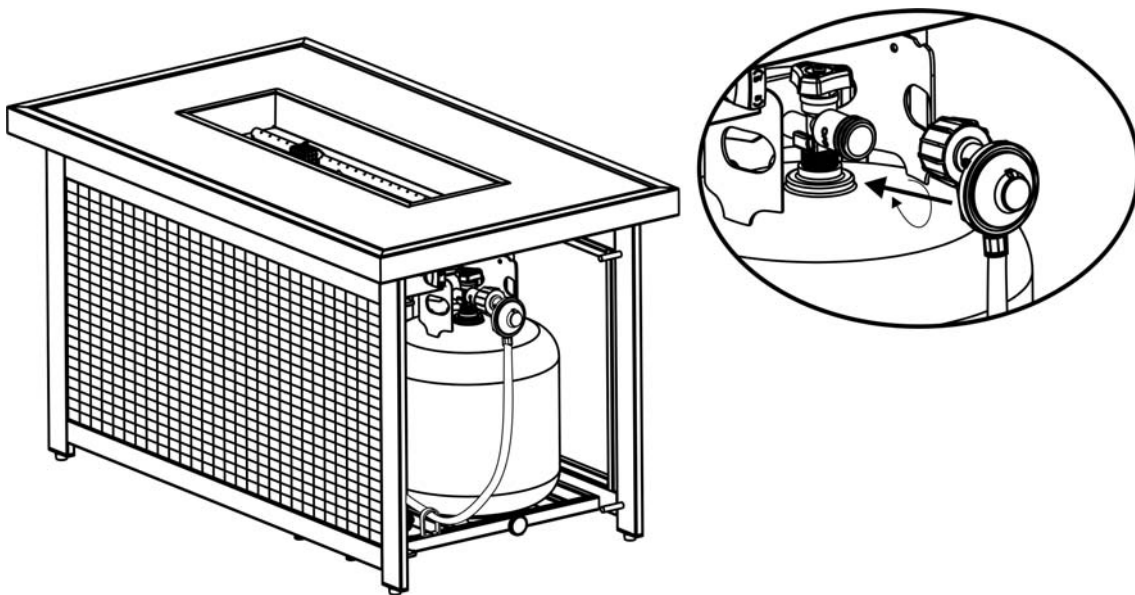

Figure 9
8. Slide the tank drawer out and place the LP tank in the drawer. Connect the regulator as shown in Figure 9. Turn the black handle clockwise to tighten. Turn the handle counter clockwise to remove. The hose must point down. Check that the valve is turned all the way clockwise to the "OFF" position. Open the tank valve. Apply a solution of soapy water to the tank-regulator connection and to the valve-hose connection to check for leaks. If soap bubbles continue to form, the connection has a leak. If a leak is found, close the tank valve and tighten all connections.